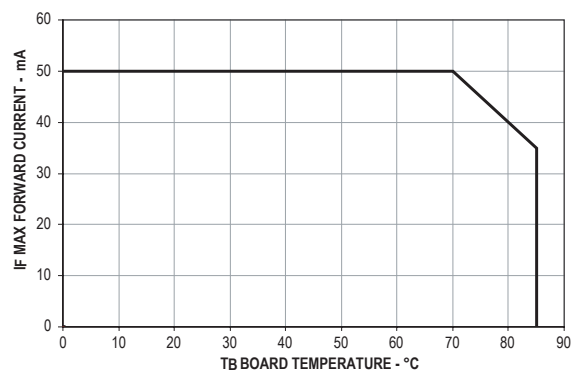

Figure 4. Maximum forward current vs. board temperature
2. Derate linearly as shown in Figure 4.